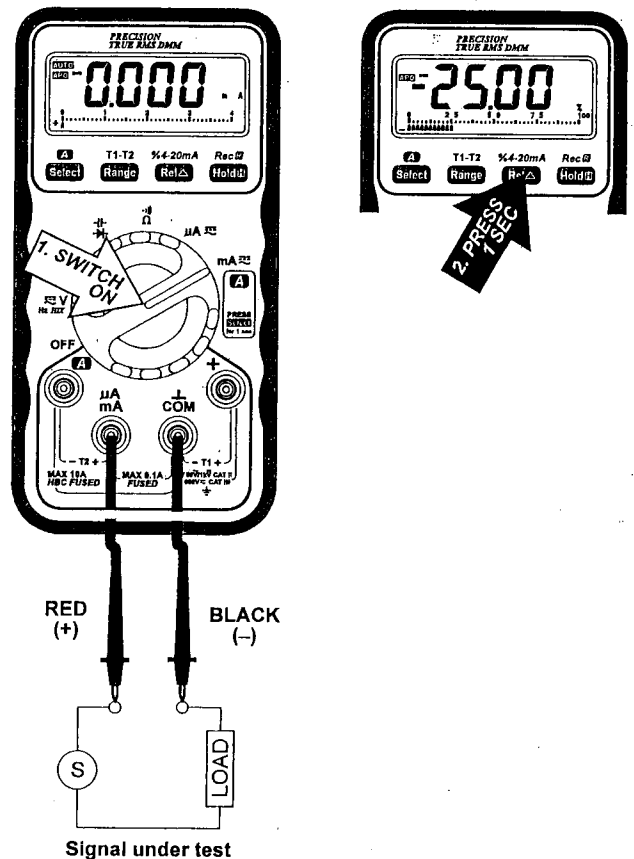

FIG 8. μA , mA, %4-20mA FUNCTION
- 4) Connect the test leads as shown in FIG 8 and observe the digital display